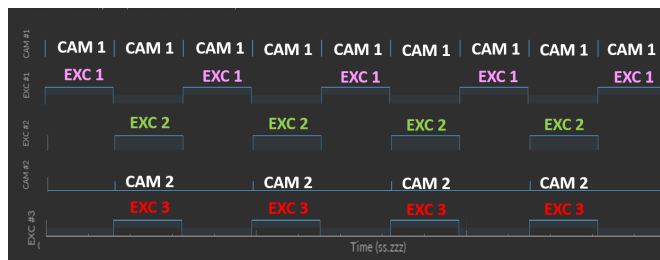

Figure 1.9: Show Timing Preview
- b) If you are using a BFMC-G3 system, which includes two imaging cameras, and you plan to record green and red photometry, it is recommended that the isosbestic and green channels are recorded on one camera, while the red channel is recorded on the second camera. According to the **Show Timing Preview** window, double check the cycles (Fig. 1.9).